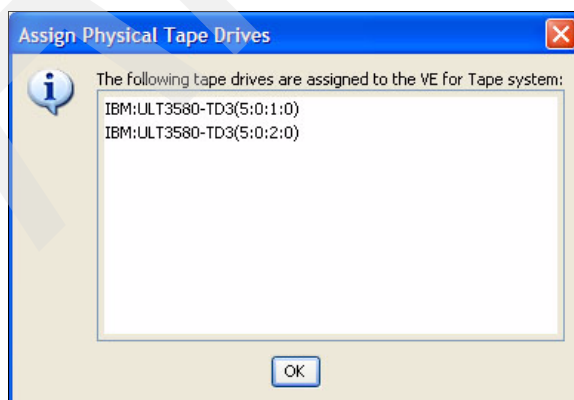

Figure 6-71 Discover new devices: Confirm successful tape drive assignment
10. Confirm the tape drive assignment was successful (Figure 6-71). Click **OK**.